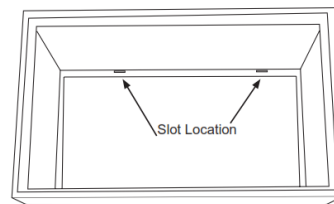

Figure 8
2. Insert grille mounting tabs into the slots in the top flange of the wall sleeve. (Figure 8)